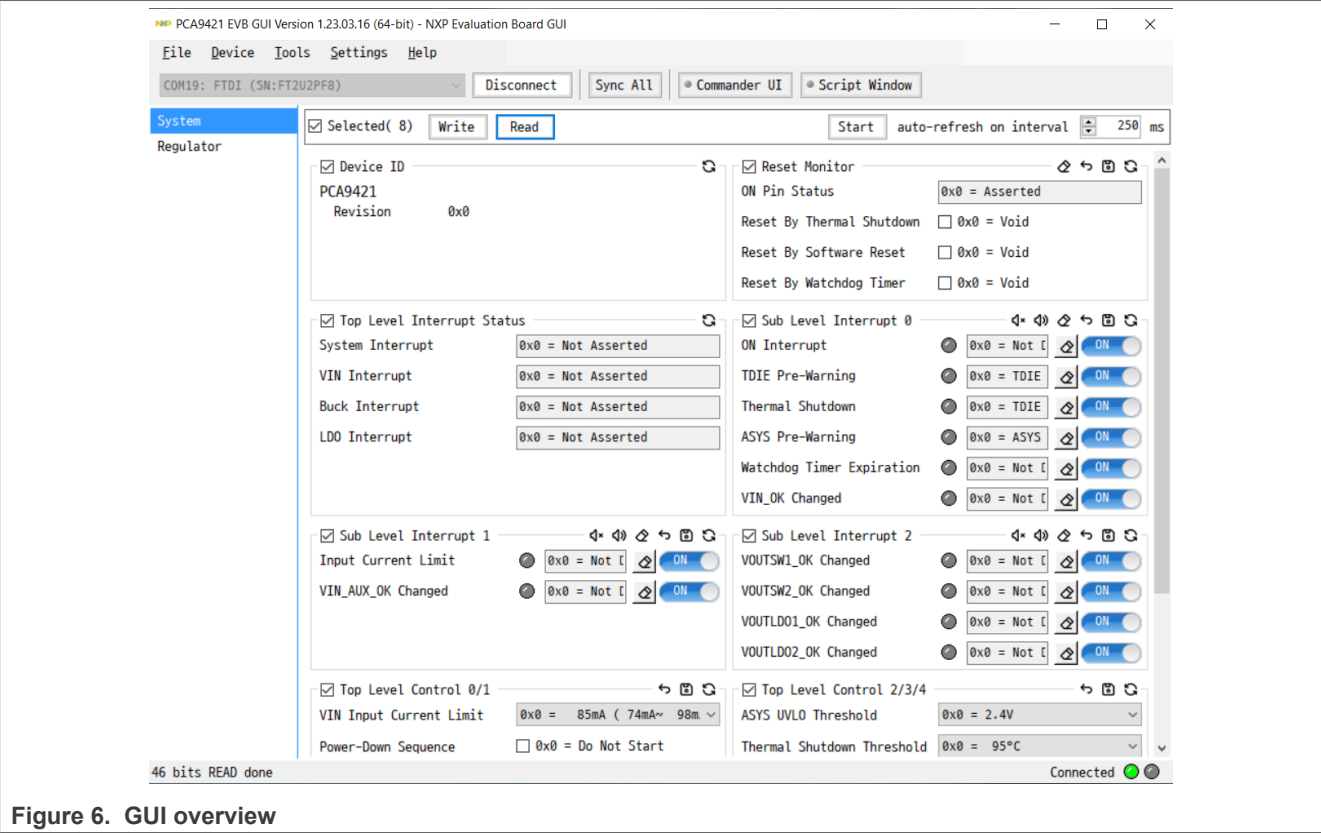

Figure 6. GUI overview
- Run the file PCA9421.exe. The interface is shown in Figure 6.